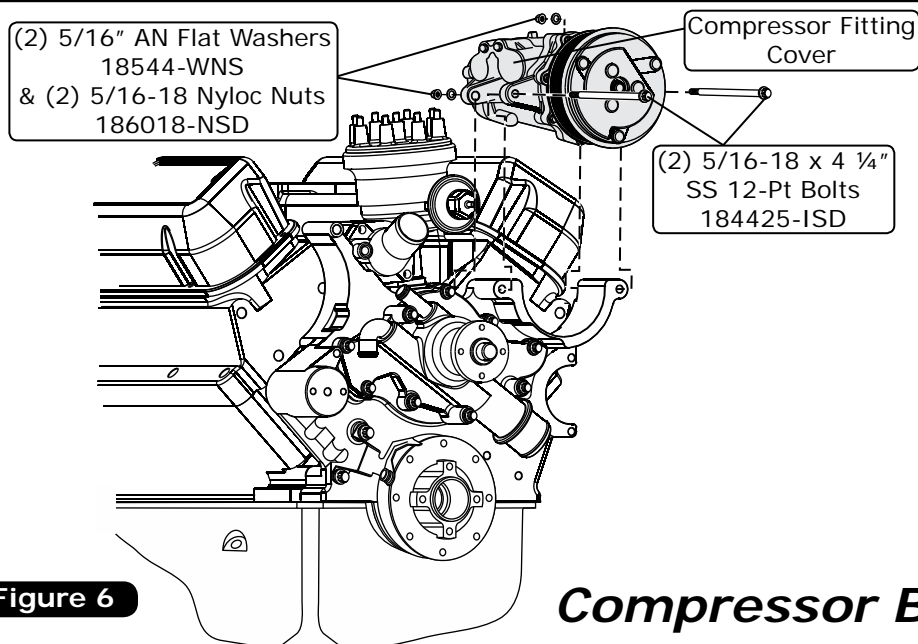
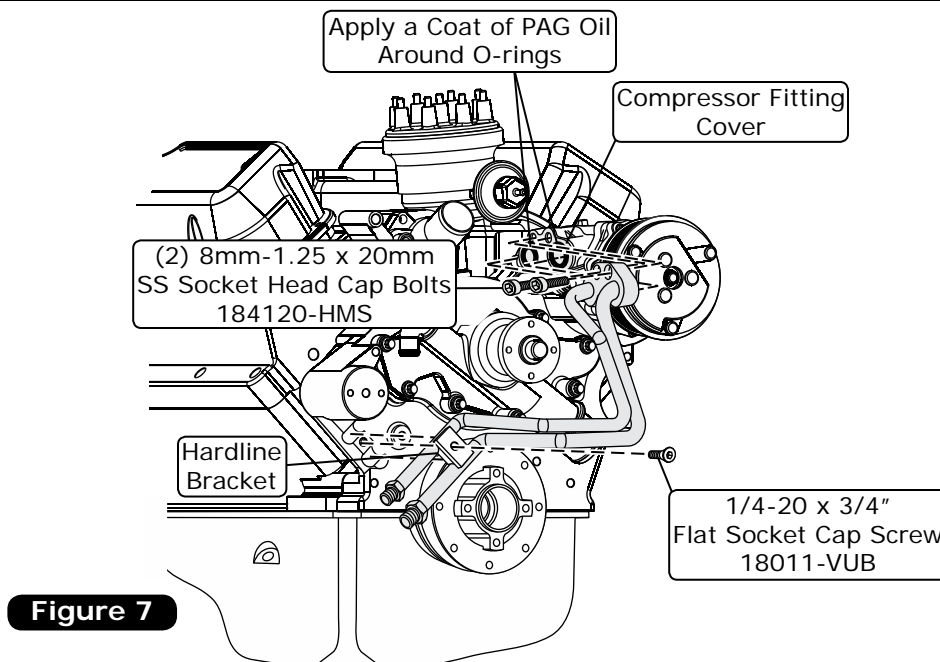

Figure 6
Figure 7
1. Install the compressor as shown in Figure 6, below. Secure the compressor to the main bracket using (2) 5/16-18 x 4 1/4" SS 12-Pt bolts, (2) 5/16" AN flat washers and (2) 5/16-18 nyloc nuts as shown in Figure 6, below. The compressor mounting ears contain sliding bushings that are drawn in and clamp to the bracket when compressed. Torque to 25 lb ft.
1. Remove the compressor fitting cover (discard cover and screws) and apply a coat of PAG oil around the O-rings (See Figure 6, above, and Figure 7, below).
2. Using (2) 8mm-1.25 x 20mm SS socket head cap screws, install the compressor block fitting with hardlines as shown in Figure 7, below. Torque to 18 lb ft.
3. Secure the hardlines to the main bracket using the hardline bracket and a 1/4-20 x 3/4" SS flat socket cap screw (See Figure 7, below).